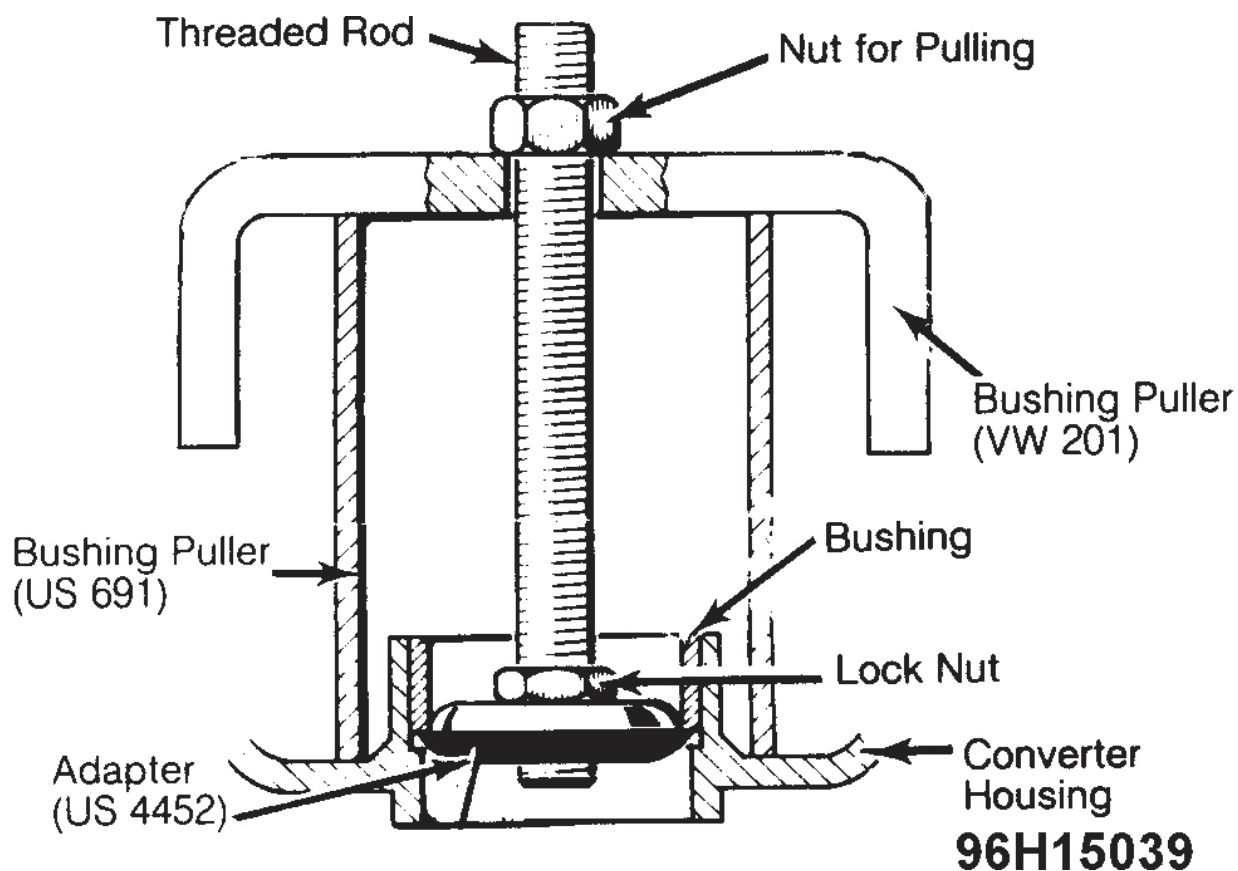

Fig. 5: Removing Torque Converter Bushing
2. To replace bushing, assemble Bushing Puller (VW201 or US691) and Adapter (US4452). Withdraw bushing from converter hub. See Fig. 5. Press new bushing into place using Bushing Drivers (VW412, VW420 and VW474) and Support (VW401).